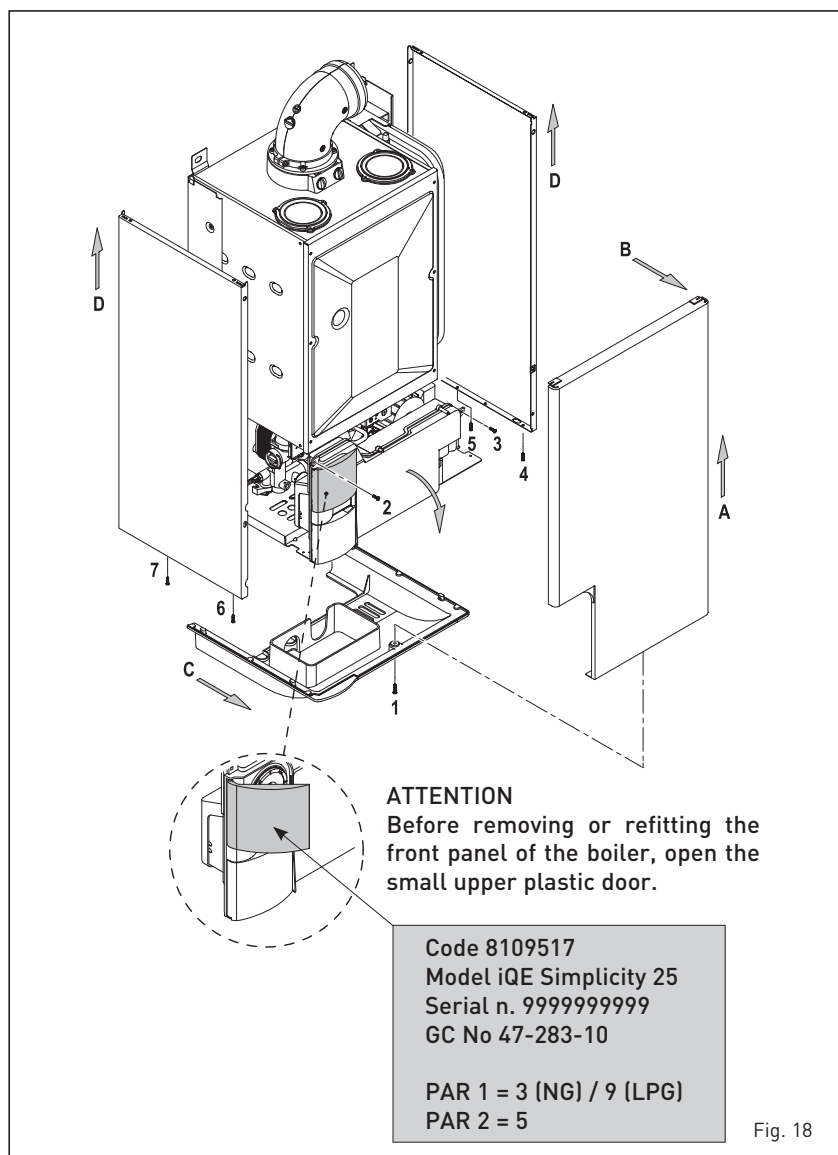

Fig. 18
4.4 REMOVING THE COVERS (fig. 18)
It is possible to completely remove the covers for easier access as shown in fig 18. The control panel can be hinged forward after removing the front cover and the retaining screw 2.